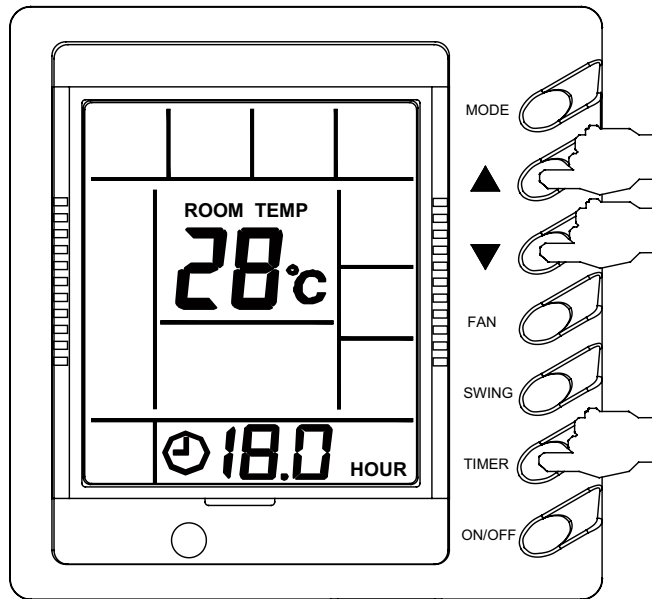

Fig. 7.2
3) After power on, press TIMER, and \odot 0.5 HOUR will be displayed, with \odot and HOUR blinking continuously. After that, press TIMER again, and \odot 0.5 HOUR will disappear, which indicates that the timing is canceled. See Fig. 7.2 for the set time.